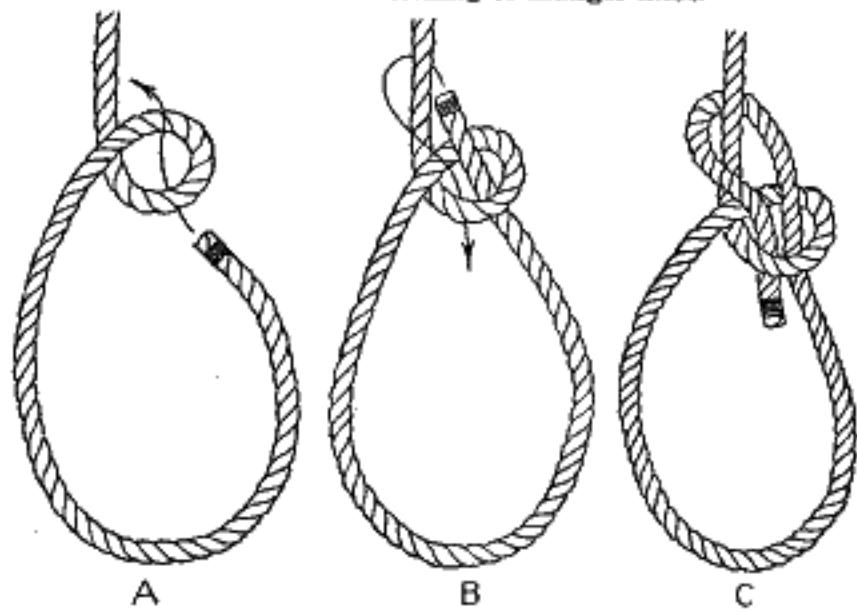

FIG. 331.—The bowline knot.
**392. The bowline knot** (Fig. 331) is one of the most useful of knots. It holds securely and will not slip nor draw up tight. It is made by forming a loop near the end of the rope and then passing the end through the loop, around the standing part, and back through the loop again.